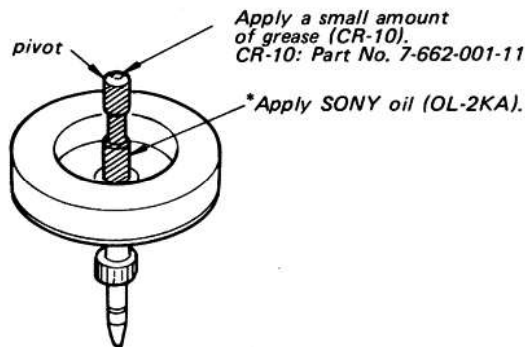

Fig. 5-2
1. When the motor shaft is replaced, apply a small amount of grease (CR-10) in the pivot and apply SONY oil (OL-2KA) to the portion marked by * in Fig. 5-2.